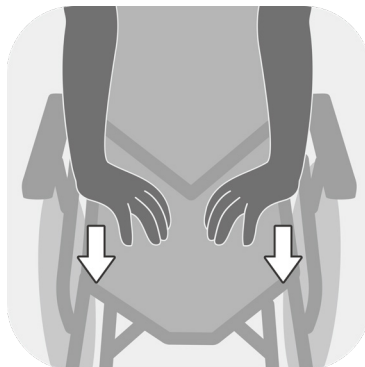

Figure 4.8
4.1.3.2 Put your two hands on the seat pan and push down until the seat is fully lowered. Be careful not to get your fingers caught. Make sure the frame is firmly seated in its holder. (See Figure 4.8)